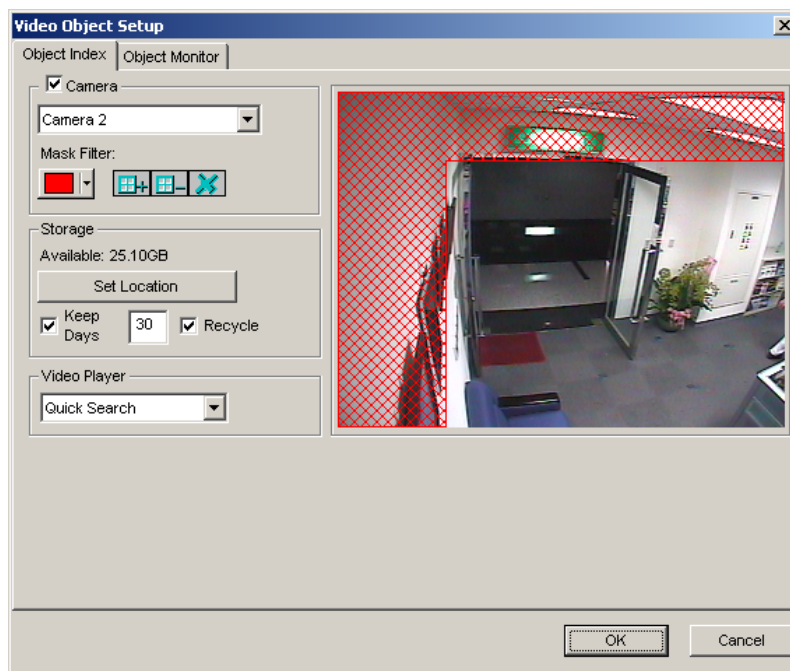

Figure 2-9 Video Object Setup for Object Index
3. Click the Configure button to display the Video Object Setup window. (Refer to Object Index, Figure 2-9.)
1. Follow the step 1 to 4 in the above *Detecting Unattended Objects* section to display the Video Object Setup window. Refer to Figure 2-9.